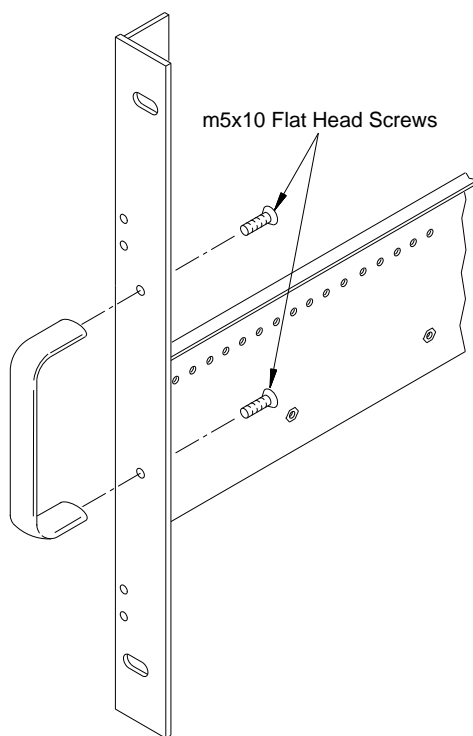

Figure 2-1. Attaching Handles to the Adapters (Option 923 - kit p/n E8400-80923)
1. Attach the handles to the adapters using the m5x10 flat head screws (Figure 2-1). Handles are included only with the Agilent E840xA Standard adapters (Option 923).